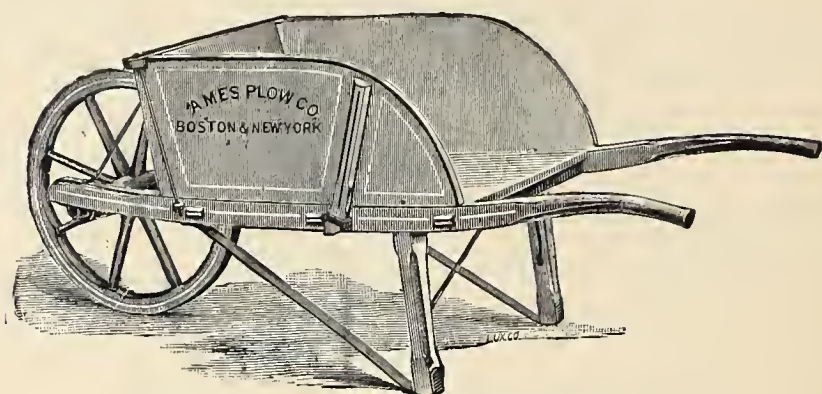

Fig. 526.—Garden Wheelbarrow.
*The Ames Garden-Barrow*, represented by *Fig. 526*, is strongly made, and well braced and painted. We make a number of kinds, and sell thousands yearly. The various sizes are as follows:—